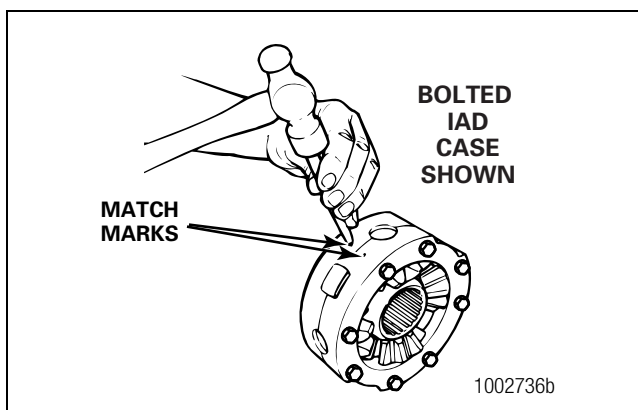

Figure 3.32
- A. Use a punch and hammer to place an alignment mark on each half of the inter-axle differential case. The alignment marks will help you mate the case halves correctly during assembly. Figure 3.32.